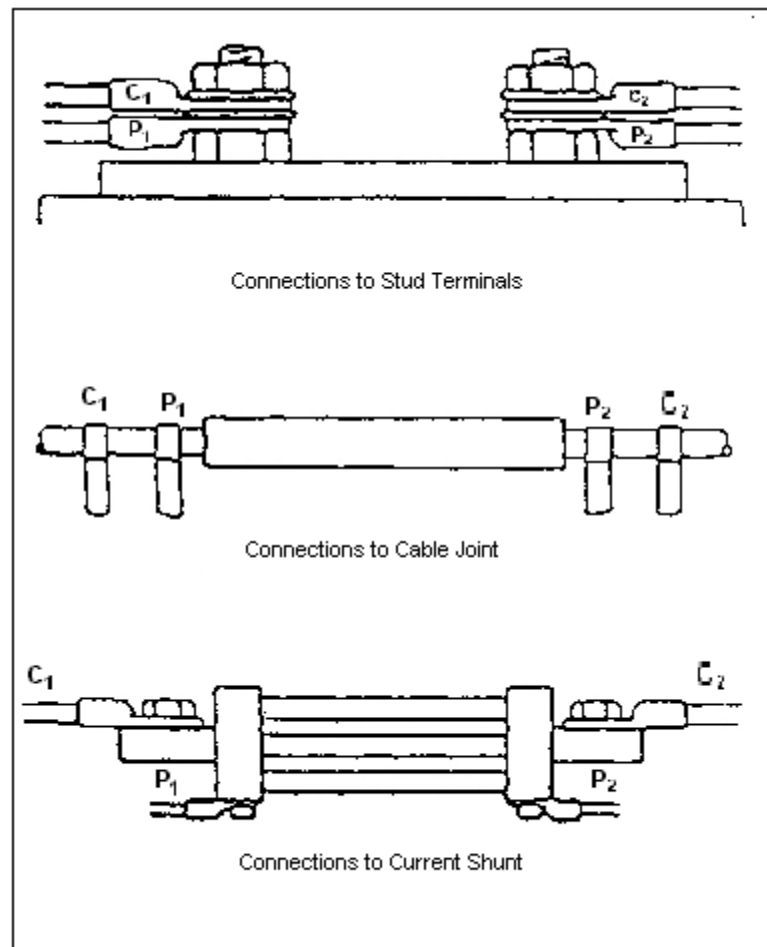

Fig. 3.3 Connections for resistance measurements with various DUT configurations
d) Fig. 3.3 illustrates connections to various types of test resistors